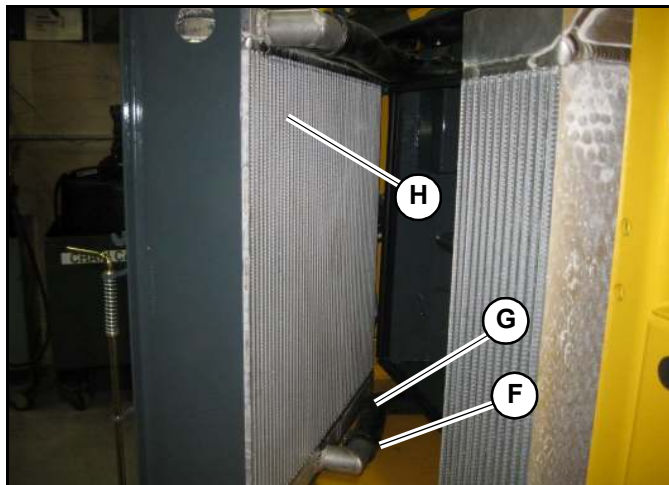

Fig. 22 – Lower Radiator Hose
8. Loosen the hose clamp (F, Fig. 22) that secures the lower radiator hose (G) to the radiator (H). Remove the upper radiator hose from the radiator. Close all openings.